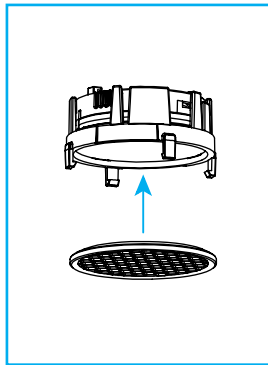
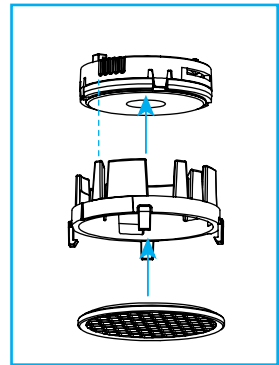

Fig.55
Fig.56
C. To install honeycomb louver, raise it up and clip into the holder *"Fig.55"*. The holder is not installed on the optic unless fixture is originally specified with the adjustable zoom optic or honeycomb louver. Holder ships with replacement honeycomb louvers and is installed by carefully pushing the holder up and clipping it onto the optic *"Fig.56"*.